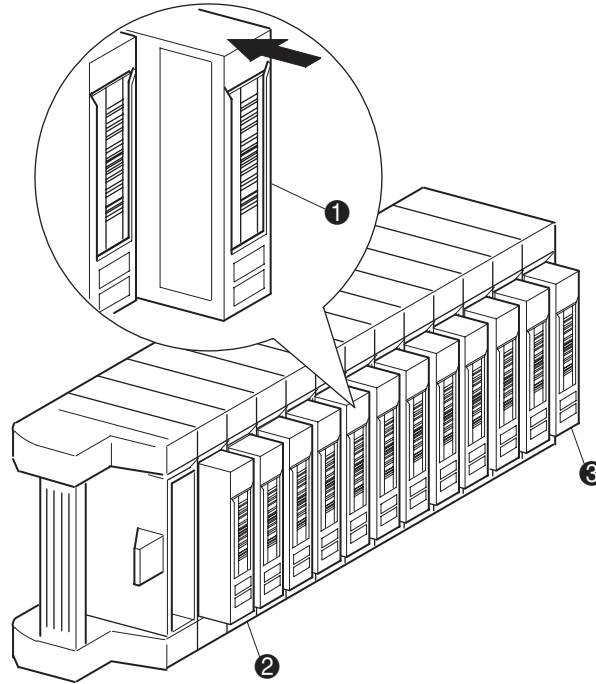

Figure 4-7. Left tape magazine with tape cartridges installed
A full left magazine is shown in Figure 4-7. Note that the lowest numbered tape cartridge slot ❷ is the one closest to the front of the magazine.